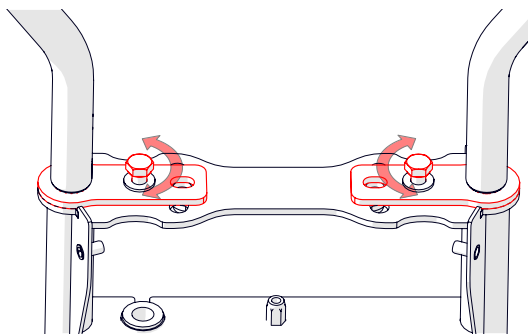

Fig.12G - Rotate handlebars as required (top console removed for clarity).
6. The handlebar can then pivot - two additional holes are available to orientate the handlebars as desired (Fig.12G). Insert the inner bolt once in position.